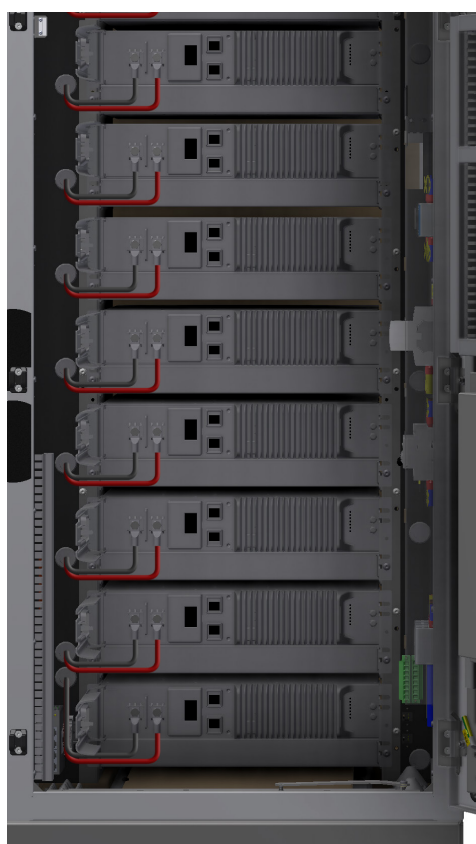

Figure 4.24 Battery cables
6. Repeat step 4 and 5 to connect all other batteries installed in the system (see *Figure 4.24*).